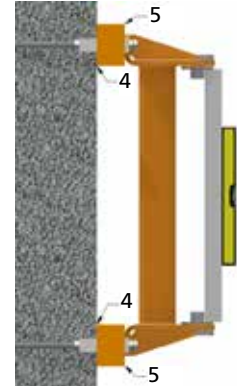

fig.39
- d. The perfect plumbing can be obtained, if necessary, inserting suitable shims 4 (not part of the supply), under the front brackets 5 (fig. 39).